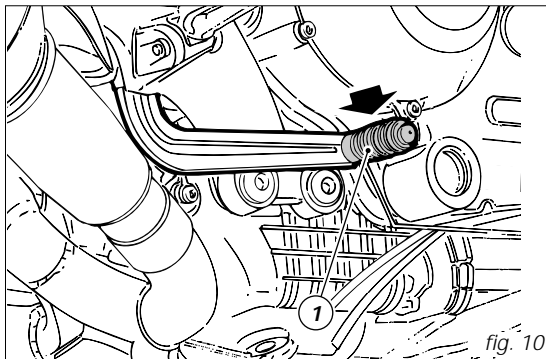

fig. 10
*Rear brake pedal (fig. 10)*
*Push down on the pedal (1) to apply the rear brake.